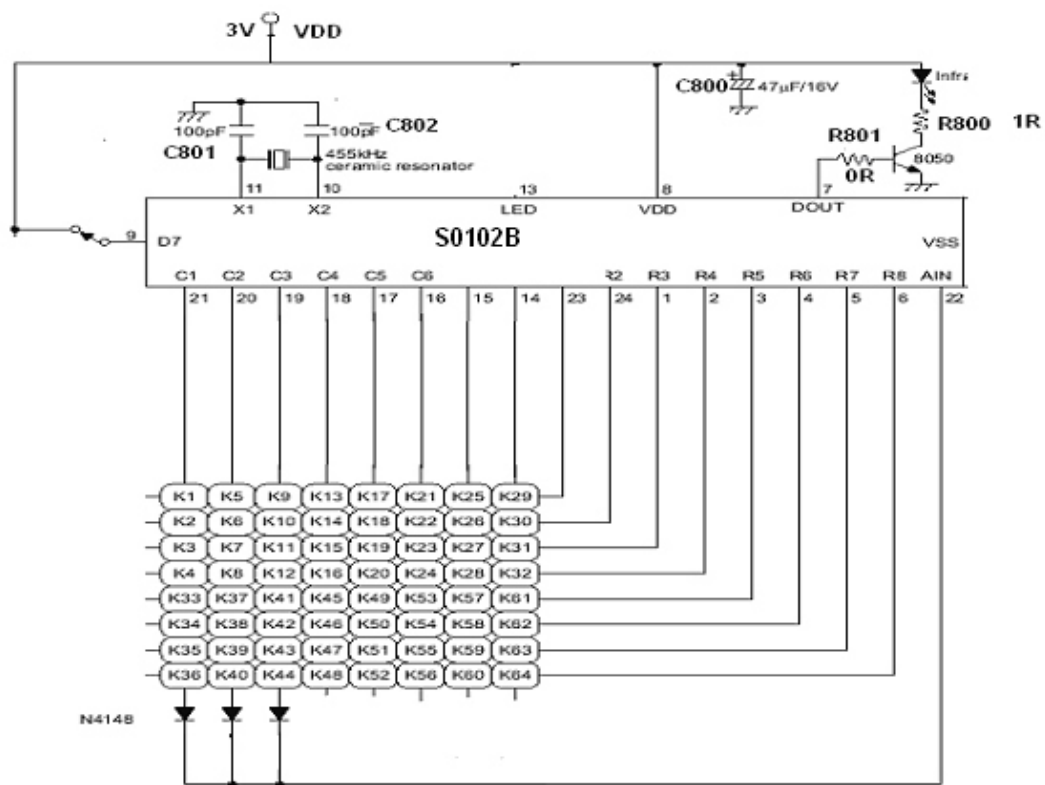

Figure 3.2.17.1 Remote controller circuit diagram
1. The circuit schematic diagram is shown as the following figure 3.2.17.1: